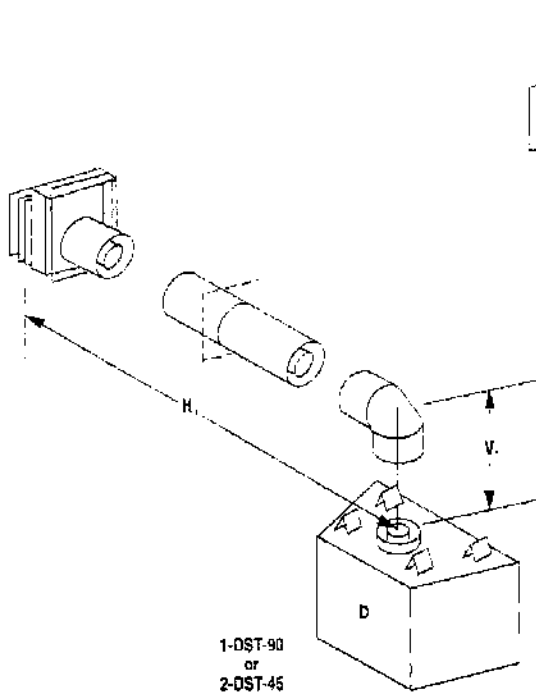

Figure 21 (90° Offsets Shown)
Figures 21 through 24 and the Horizontal Vent Table illustrate the various horizontal venting configurations that are possible for use with Superior's Discovery Series Top Vent Appliances. The maximum horizontal distance for the DS-36T system is 24' (7.3 m). Figures 21, 22 and 23 along with the Horizontal Vent Table identify: (D) horizontal system employing one (1) 90° elbow; (E) horizontal system employing two (2) 90° elbows and (F) horizontal system employing three (3) 90° elbows. The horizontal Vent Table summarizes each system's minimum and maximum vertical and horizontal values that can be used to design and install the vent components in a variety of applications. All three of these horizontal vent systems terminate through an outside wall. Building Codes limit or prohibit terminating in specific areas. Refer to Figure 9 for location guidelines.